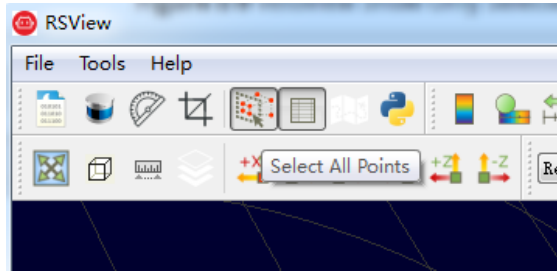

Figure A-19 RSView Select All Points tool
8. Click the **Select All Points** tool, your mouse will turn into a data point selection tool (Figure A-19).